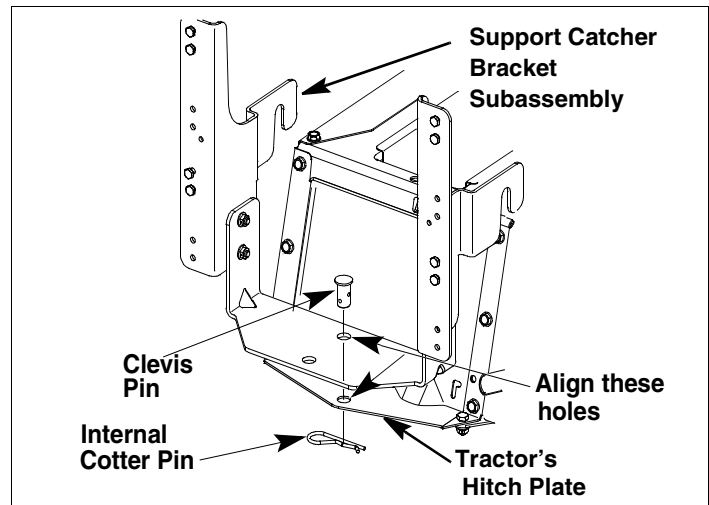

Figure 9
- Align the hole at the lower end of the support bracket subassembly to the hole on the hitch plate on the tractor and insert the Clevis Pin (Ref. No. 7) through these two holes. Secure the Clevis Pin with the Internal Cotter Pin (Ref. 11). See Figure 9.